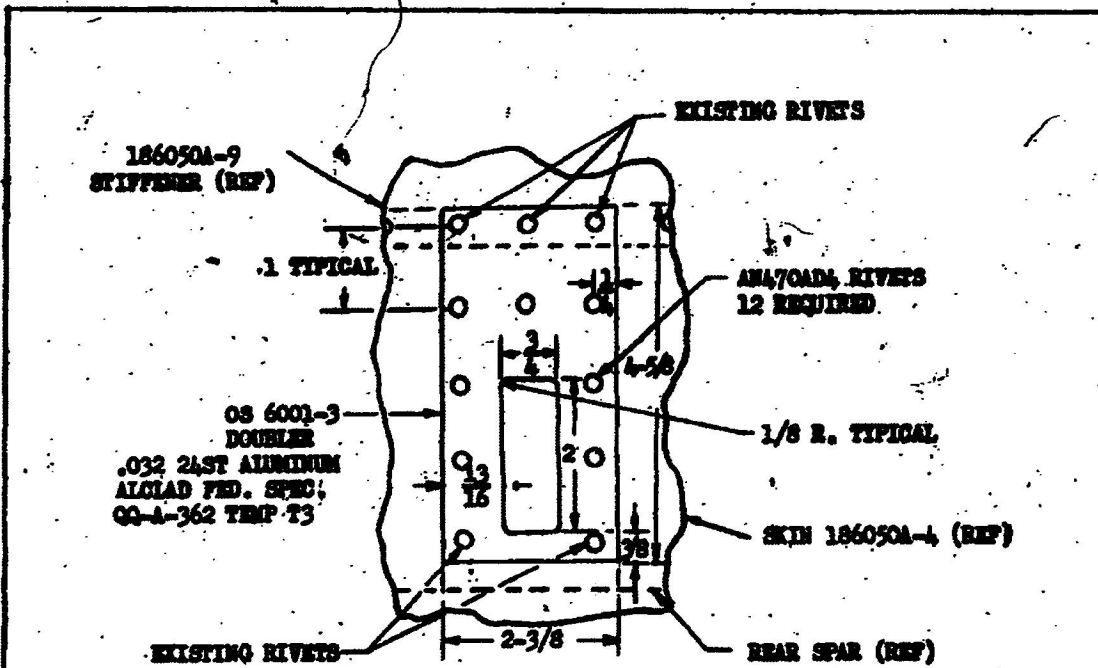

Figure 2
- (i) If the 5/8- by 2-inch cutout in the 186050A-4 skin for the elevator tab chain is oversize or cracked and does not exceed 3/16 inch, install an OS 6001-3 doubler on the outside of the skin as shown in Figure 2. Pick up the 5 existing rivets and add 7 AN470AD4 rivets spaced as shown in Figure 2, maintaining 1/4 inch edge distance. If cracks exceed 3/16 inch, repair the skin in accordance with OS 7007. Stop drill cracks.